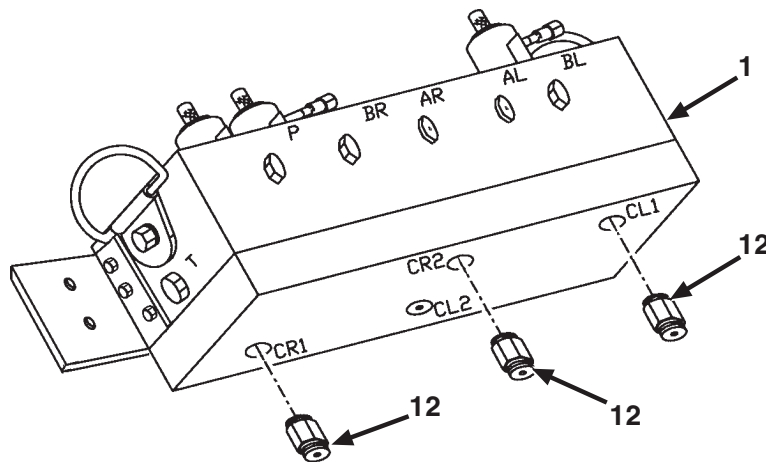

Figure 78. Rear Fuel Tank Strap.
Step 9 applies to Figure 78.
9. Remove three straight adapters (item 12) from track and blade manifold bottom (item 1) at ports CR1, CR2, and CL1.